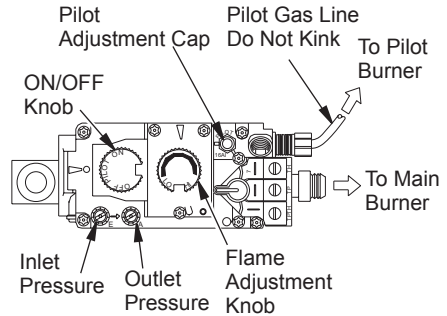

Figure 43 - Millivolt Control Valve
The millivolt system with a manual HI/LO applies only to the (V)DVF36TPNA/TSDTA and (V)DVF36TNPA/TSTPA models. Gas control valve is accessible from lower control compartment. Two pressure taps are provided on gas control valve for a pressure gauge connection (see Figure 43).